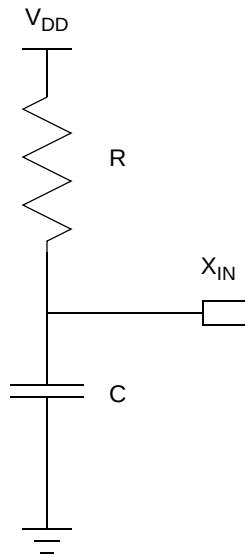

Figure 40. Connecting the On-Chip Oscillator to an External RC Network
The External RC Oscillator mode is applicable to timing-insensitive applications. Figure 40 displays a recommended configuration for connection with an external resistor-capacitor (RC) network.